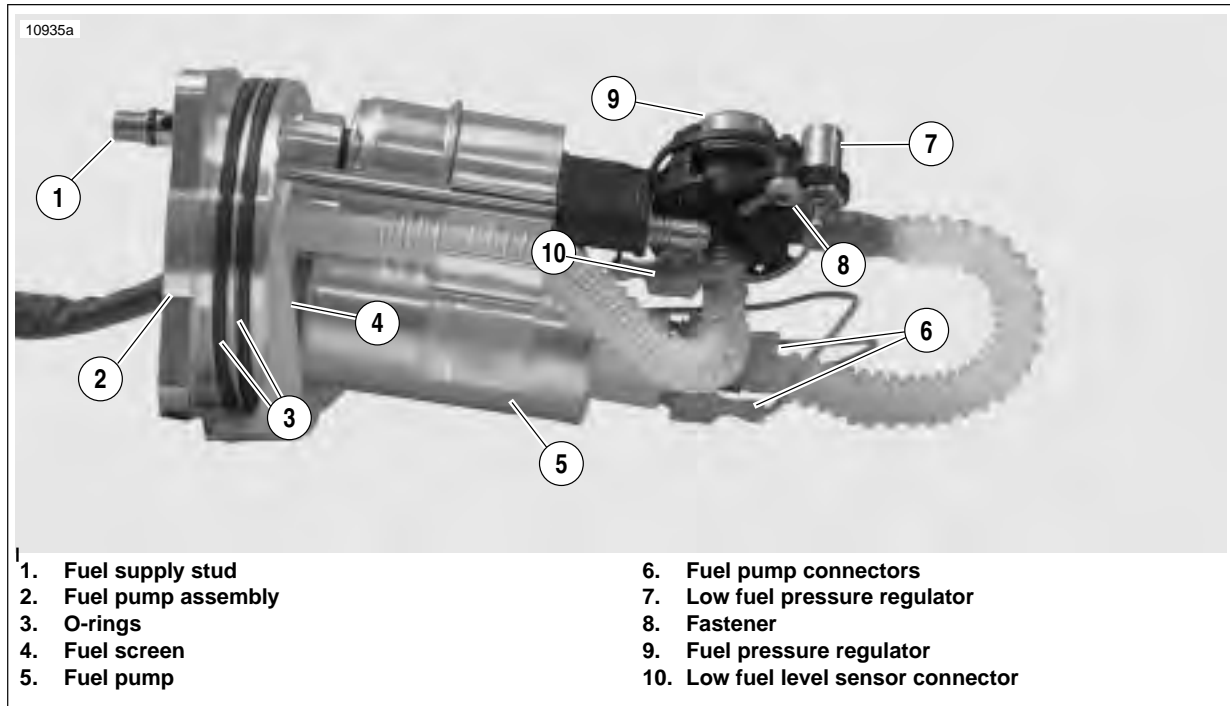
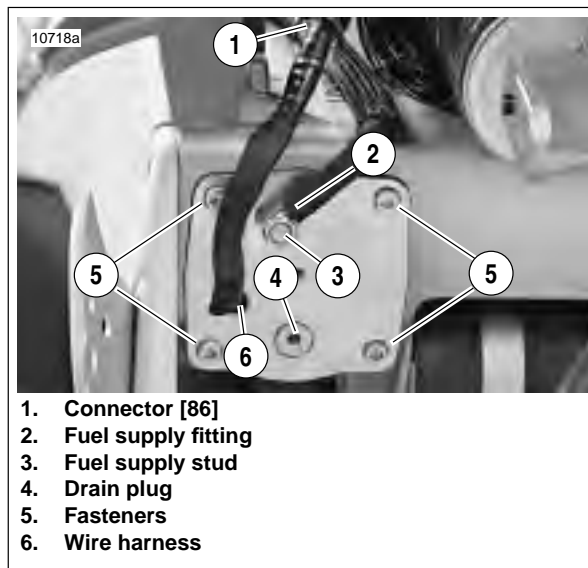

Figure 4-95. Fuel Pump Assembly
Figure 4-100. Fuel Pump Location
2. See Figure 4-95. Disconnect low fuel level sensor connector (10).
3. Remove screw (8) securing low fuel level sensor (7) in place.
5. Install screw (8) securing sensor and tighten to 18-22 **in-lbs** (2.0-2.5 Nm).
6. Attach low fuel level sensor wire connector (10).
1. See Figure 4-95. Replace o-rings (3). Lubricate **new** o-rings with **clean** engine oil.
2. Install **new** o-rings on fuel supply stud (2). Larger o-ring is located in groove closer to fuel pump.
3. See Figure 4-100. Insert fuel pump into frame until resistance is felt.
4. Insert four screws (5) through fuel pump and into frame.